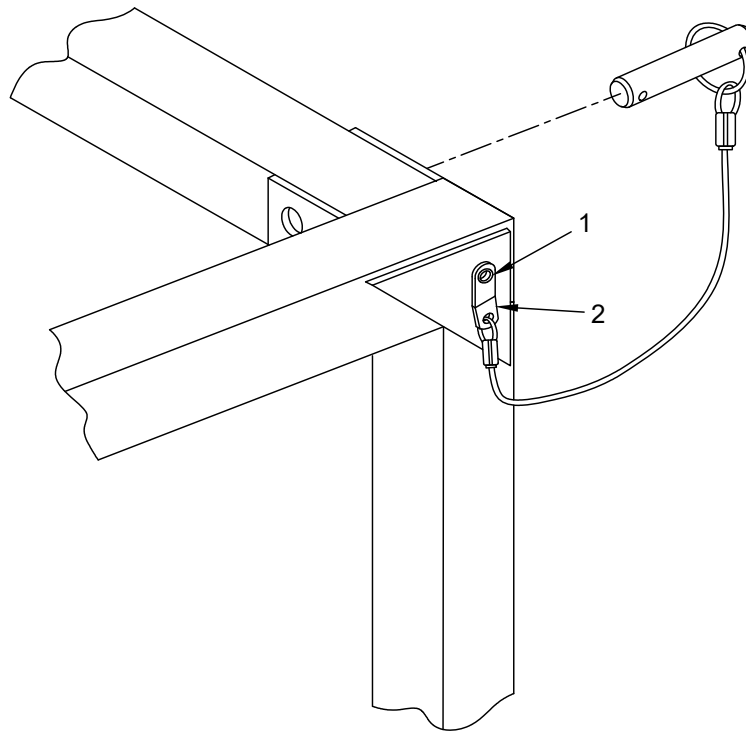

Figure 3. Lanyard Assembly Removal/Replacement.
2. Drill out center of lanyard rivet (Figure 3, Item 1) using a 3/16" drill bit.
3. Remove and discard rivet (Figure 3, Item 1). Remove lanyard assembly (Figure 3, Item 2).
1. Using rivet gun, place rivet through lanyard assembly (Figure 3, Item 2) hole and hole in trailer structure.
2. Lock down rivet (Figure 3, Item 1).